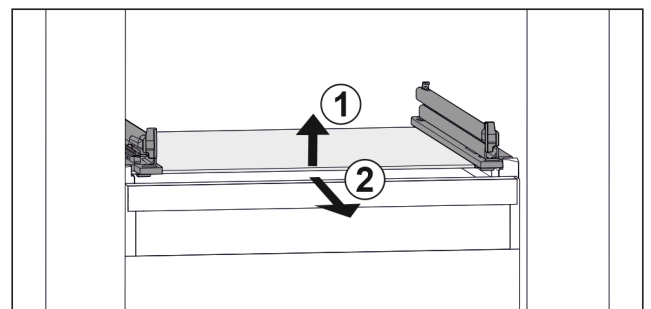

Fig. 138 Example illustration of glass shelf
- ▶ Lift glass shelf at the front. Fig. 138 (1)
- ▶ Take out glass shelf to the front. Fig. 138 (2)